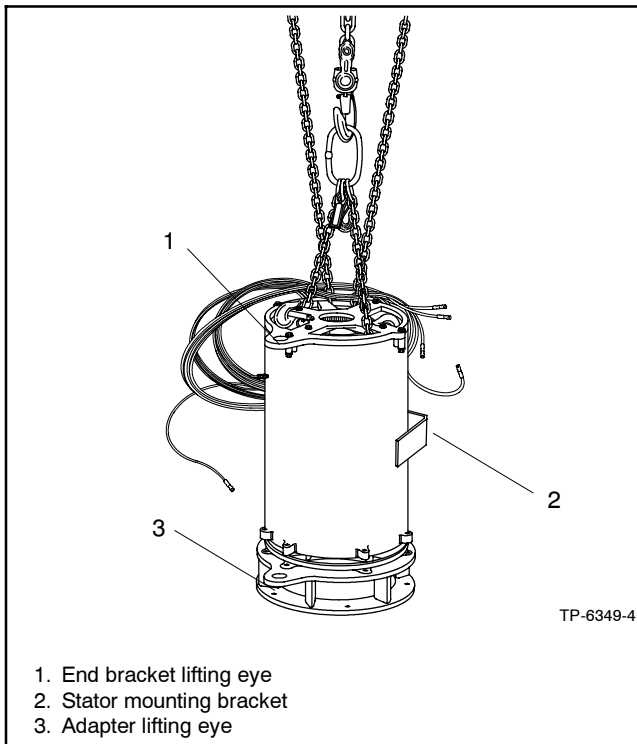

Figure 4-12 Aligning Adapter and Stator
5. Attach hoist hooks to the end bracket and suspend the stator. Place the alternator adapter on the floor and lower the stator to within 6-12 mm (1/4-1/2 in.) of the adapter lip. See Figure 4-12.